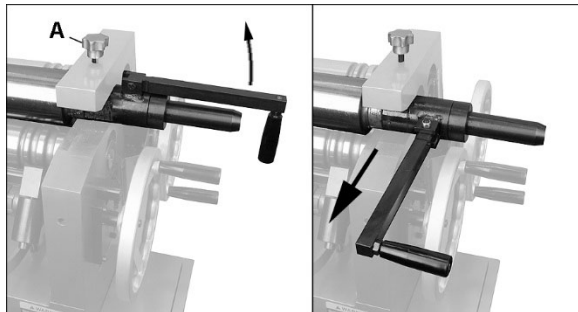

Figure 10-4
5. Loosen knob (A, Figure 10-4), pull handle upward, then toward front. Pull stationary roll out of notch.
6. After tube is removed, reposition stationary roll, making sure handle is rotated back to original position. Tighten knob (A).